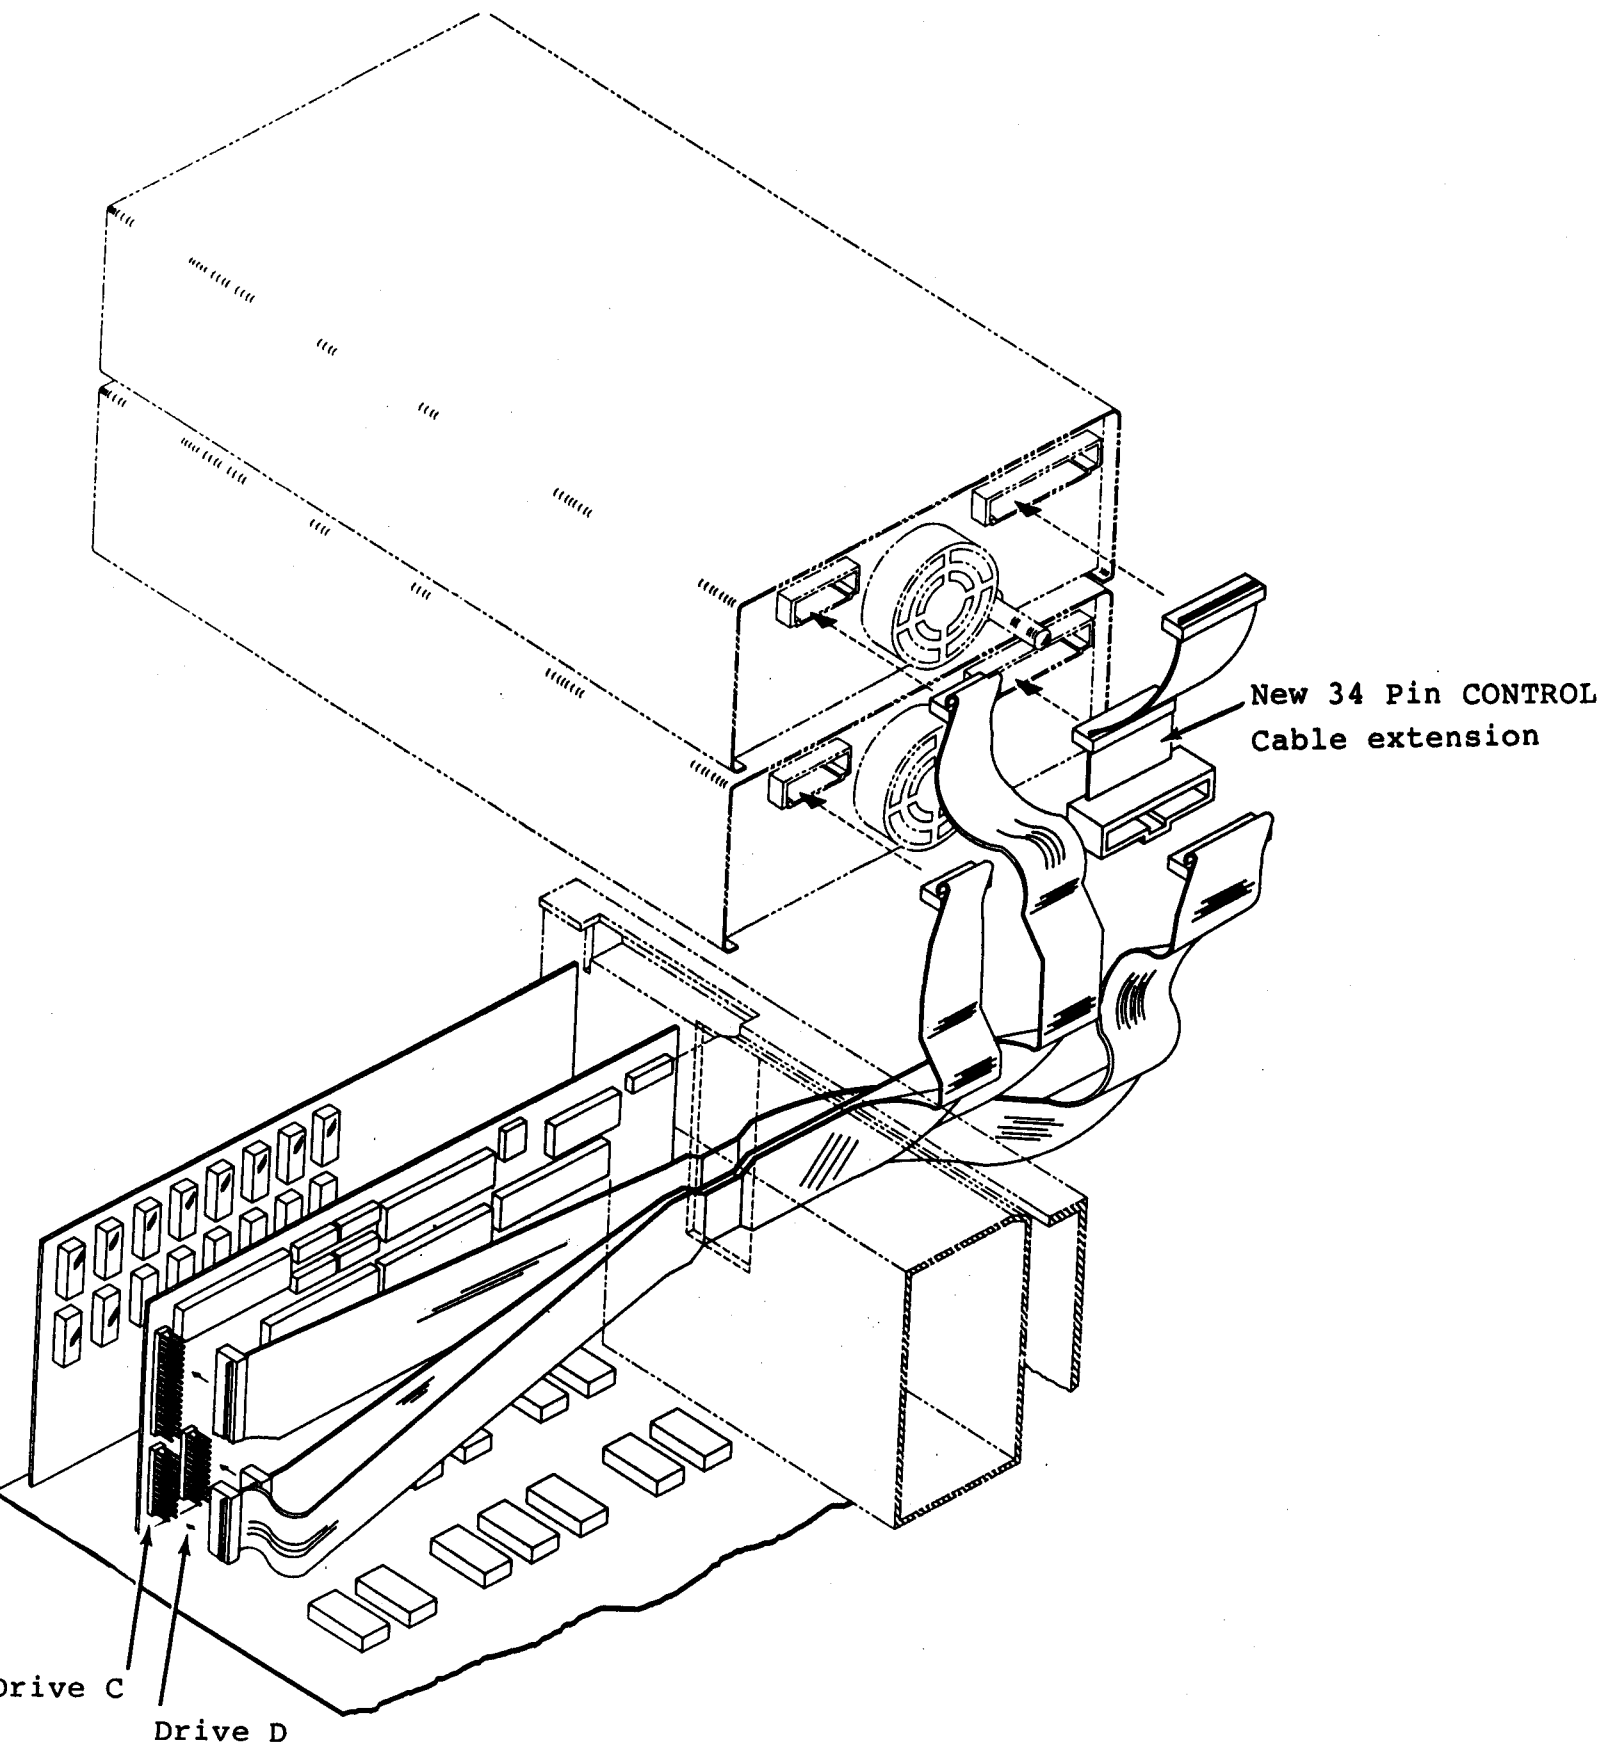
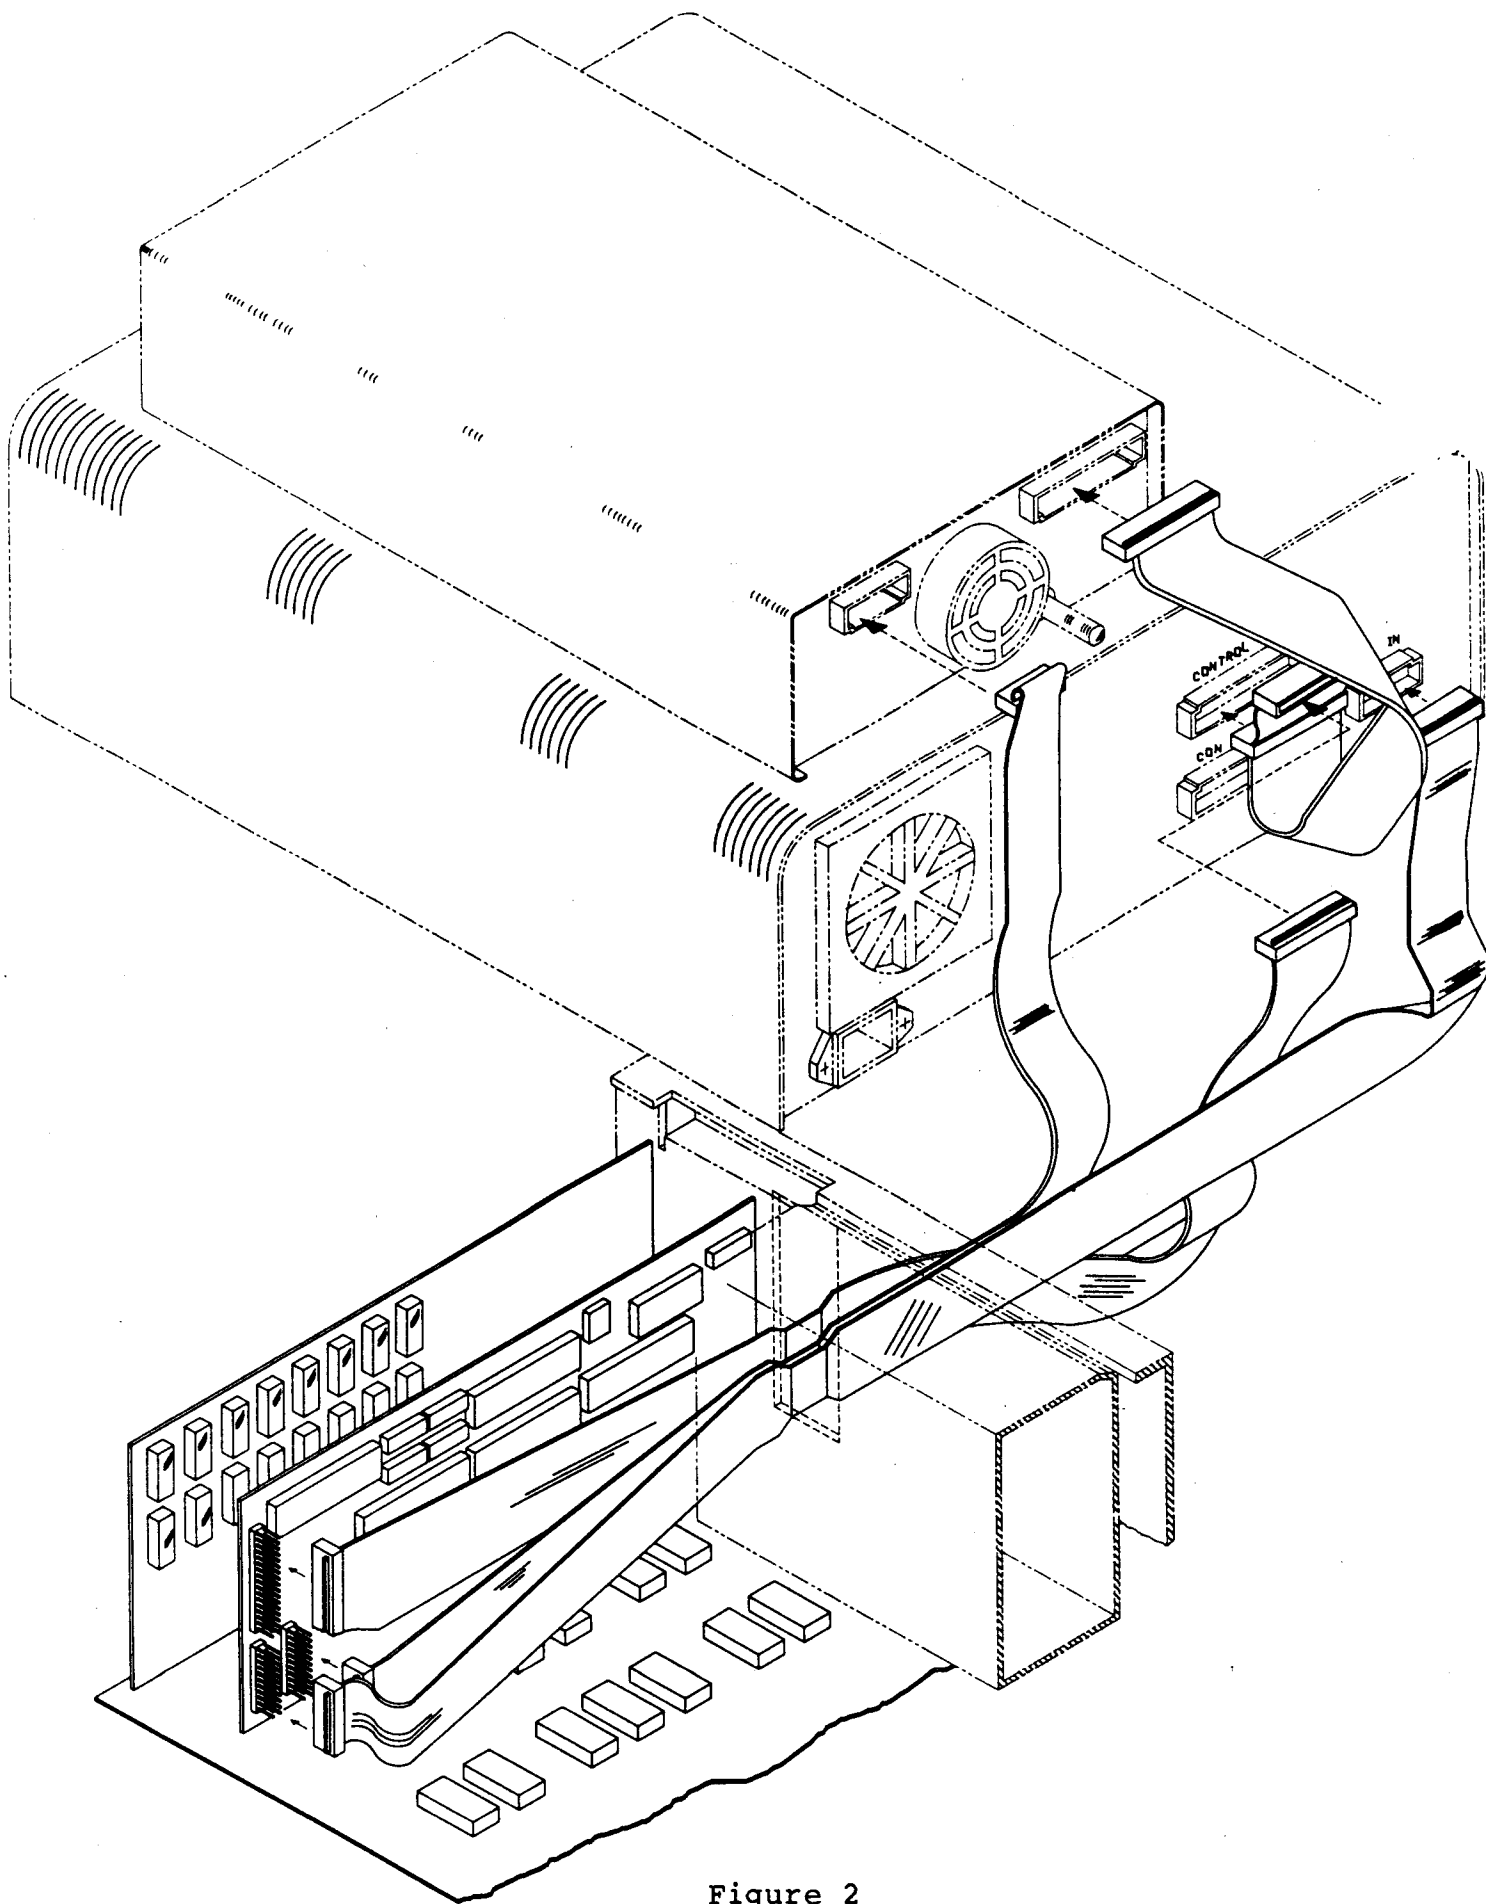

Figure 1
Figure 2
3. Two possible drive configurations are shown in Figure 1 and Figure 2. When inserting your DATA cables into your particular Drive C and Drive D, always make sure that the cables are inserted into their respective units.